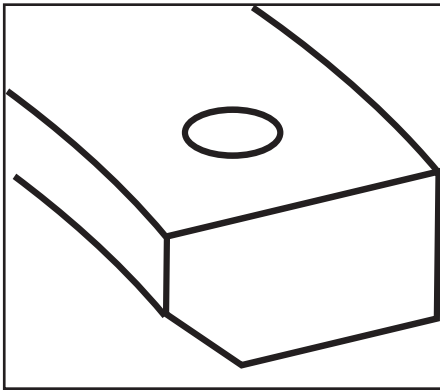

Figure 1
- b. Second compression ring has a darker, charcoal gray finish and slight bevel along inner surface. This ring has a dot. See Figure 1. Install in second or middle groove with dot up.
- ii. Plain cast ring usually goes in second groove. Plain cast type is usually a reverse torsion ring distinguished by an inside diameter bevel on one side of ring and a "dot" or oversize mark on other side. **See Figure 1** above. If two cast iron compression rings are supplied in a set, check to see if one is reverse torsion style ring with dot and bevel. Reverse torsion style ring always goes in second groove with dot up if present.
- vi. If ring has dot and inside diameter bevel, dot goes to top of piston. **See Figure 1** above.